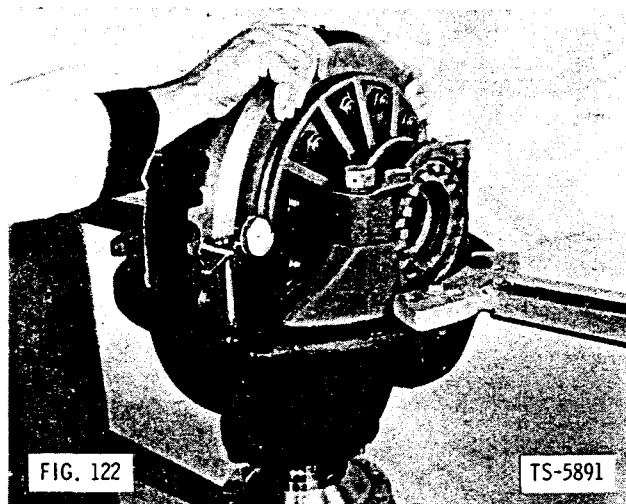

FIG. 122
13. Tighten bearing cap bolts (Fig. 122) per torque specifications. With dial indicator, recheck ring gear and pinion backlash. Recheck differential bearings for end play as described in step 10.